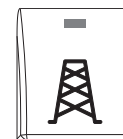

Figure 3-40. Utility Mode Button
- See **Figure 3-40**. On controller, activate utility mode by pushing the Utility Mode button.